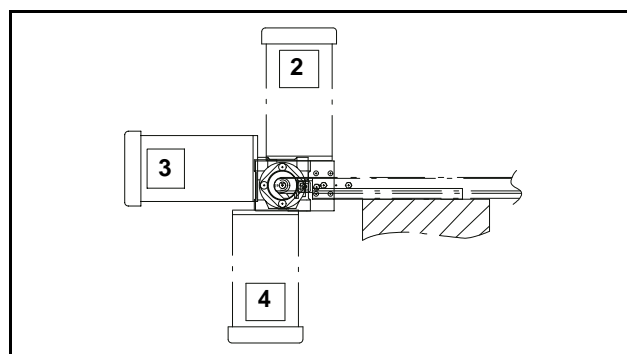

**Figure 4**
3. Check gearmotor support assembly (**Figure 4, item 1**) setup: 2200 (left) and 4100 or 6200 (right).